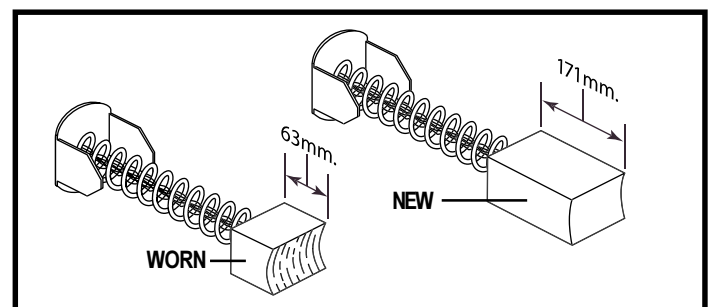

Figure 24. Motor Brushes
9. Inspect for wear. See figure 24. If there is less than 63 mm of brush remaining, replace the brushes. Contact your Quantum Rehab Specialist for replacement brushes.